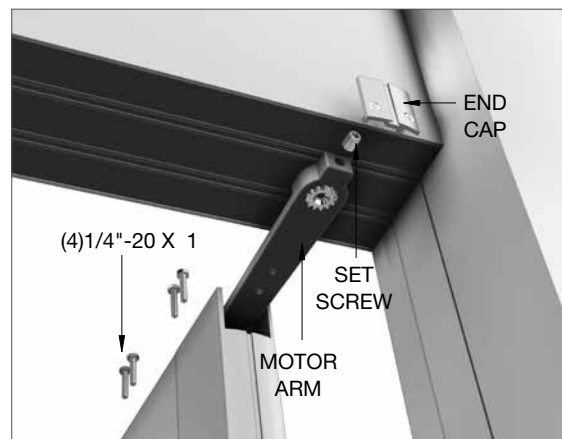

FIG. 34
9. Manually rotate the Motor Arm as you swing the top of the door upward. Align the four screw holes in the Motor Arm, Motor Arm Shim and door top. Insert the (4) 1/4"-20 X 1" Hex Bolts and tighten (**FIG. 34**).